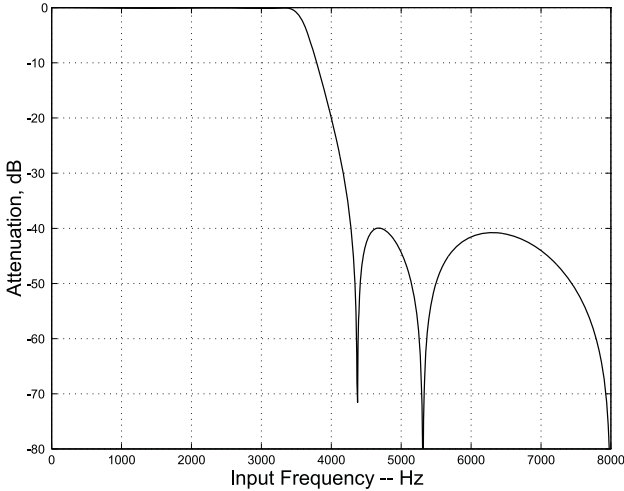
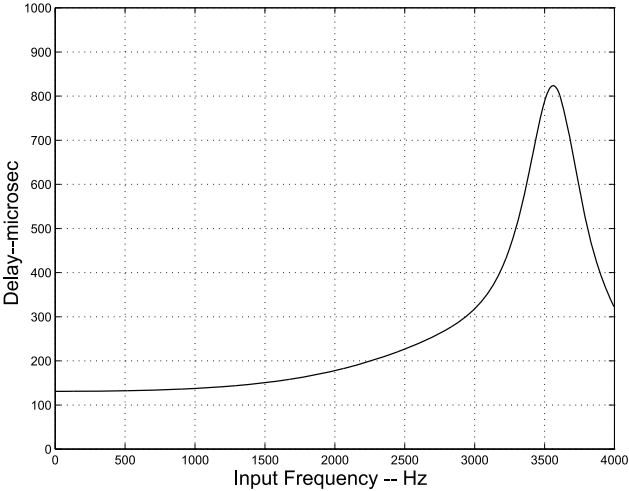

Figure 6. IIR Receive Filter Response
Figure 10. IIR Receive Group Delay
**Note:** Typical IIR filter characteristics for Fs = 8000 Hz are shown in Figures 6, 7, 8, and 9. Figures 10 and 11 show group delay versus input frequency.
For Figures 6–9, all filter plots apply to a sample rate of  $F_s = 8 \text{ kHz}$ .